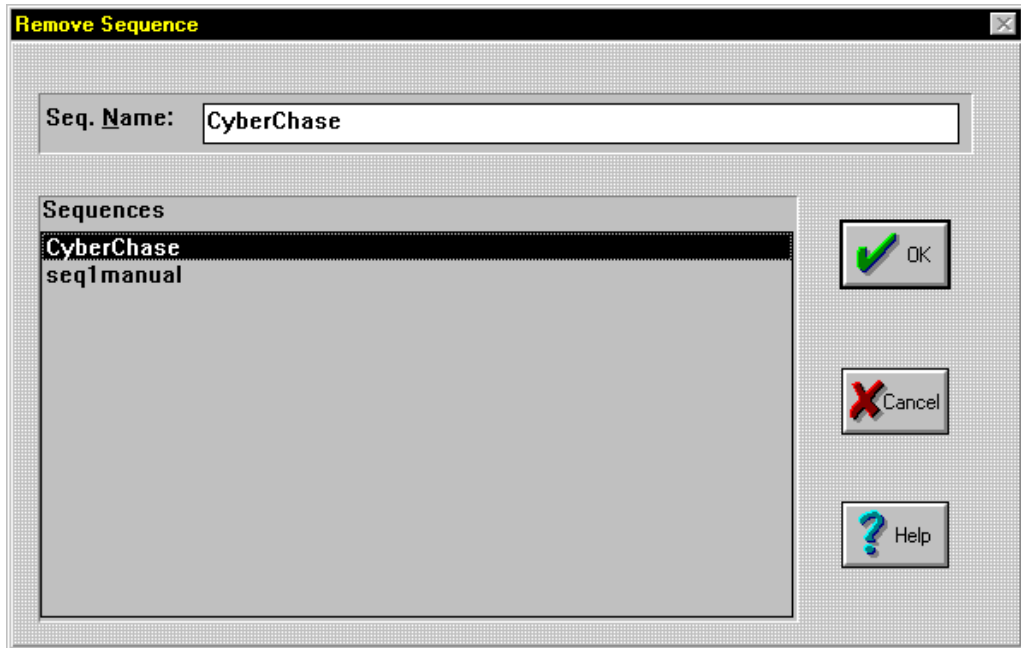

Figure 6.10. Remove Sequence Dialogue Box
2. Select **Remove** from the **Memory** drop-down menu to bring up the **Remove Sequence** dialogue box. Refer to Figure 6.10.